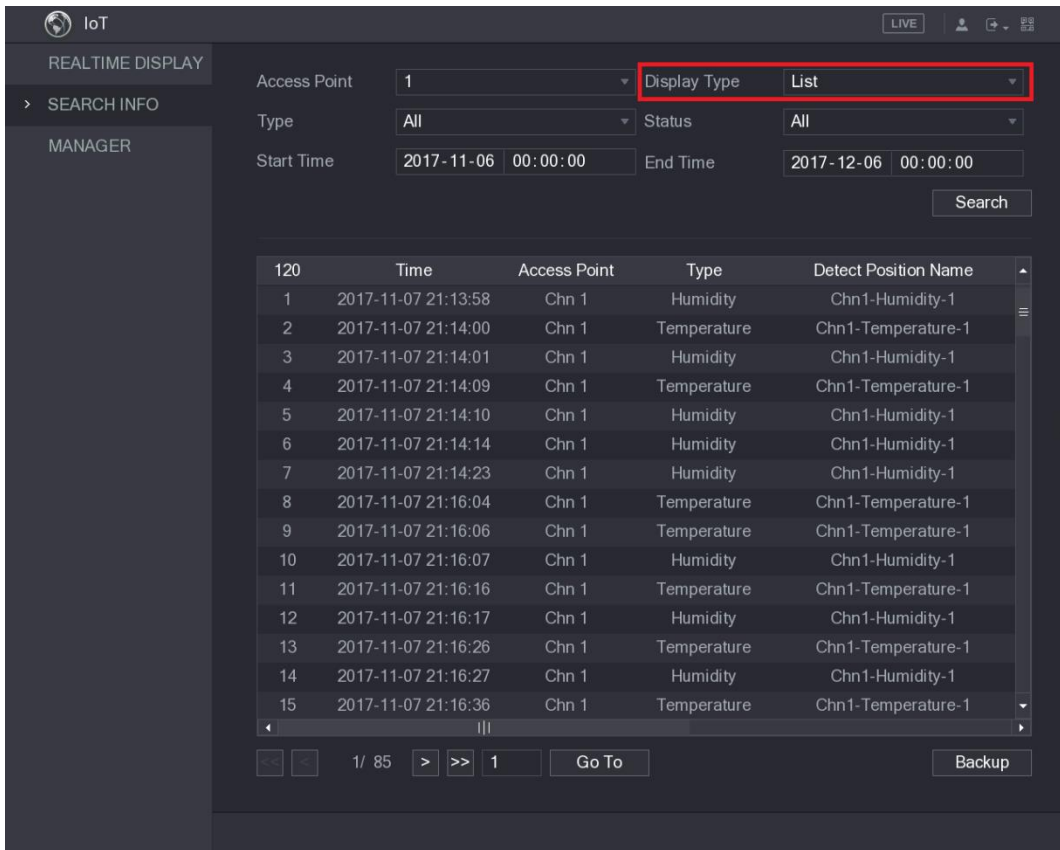

Figure 5-180
- For the data displayed in list, see Figure 5-180.